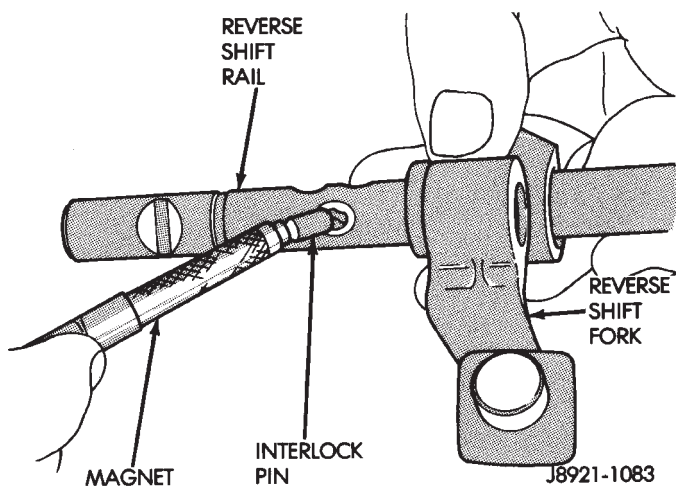

Fig. 82 Install Reverse Shift Rail Interlock Pin
- (10) Install interlock pin in reverse shift rail (Fig. 82).